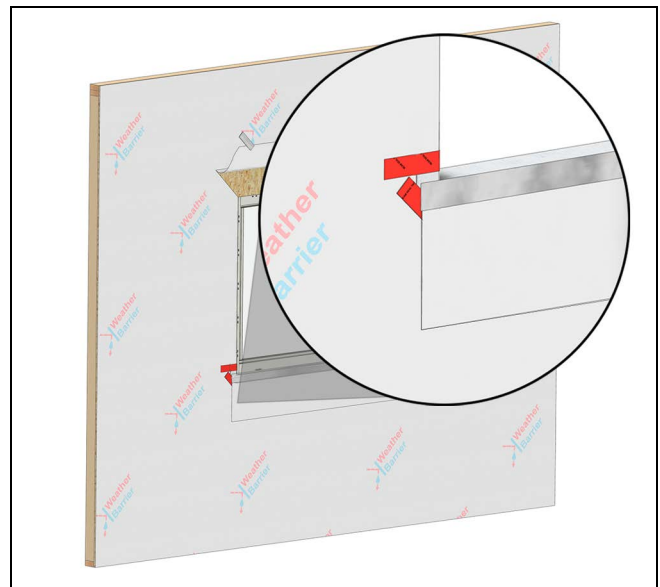

Figure 23
**1. Optional Skirt:** Install an optional "skirt" in applications with exposure to wind driven rain/climate. Use flashing material or a 12" strip of WRB and attach to the sill, overlapping at least half of the front face of the flange. See Figure 23.